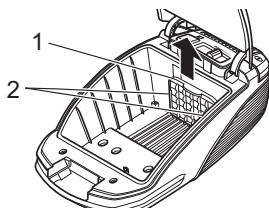

Fig.24
2. Pull the filter holder together with the protective motor filter (Fig. 24/1) up and out of the locking rails (Fig. 24/2).